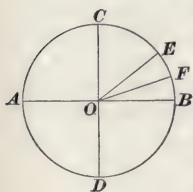

FIG. 13.
**32.** The arcs of circles are used to measure angles. An angle having its vertex at the center of a circle is measured by the arc included between its sides; thus, in Fig. 13, the arc  $FB$  measures the angle  $FOB$ . If the arc  $FB$  contains  $20^{\circ}$ , or  $\frac{20}{360}$  of the circumference, the angle  $FOB$  would be an angle of  $20^{\circ}$ ; if it contained  $20^{\circ} 14' 18''$ , it would be an angle of  $20^{\circ} 14' 18''$ , etc.